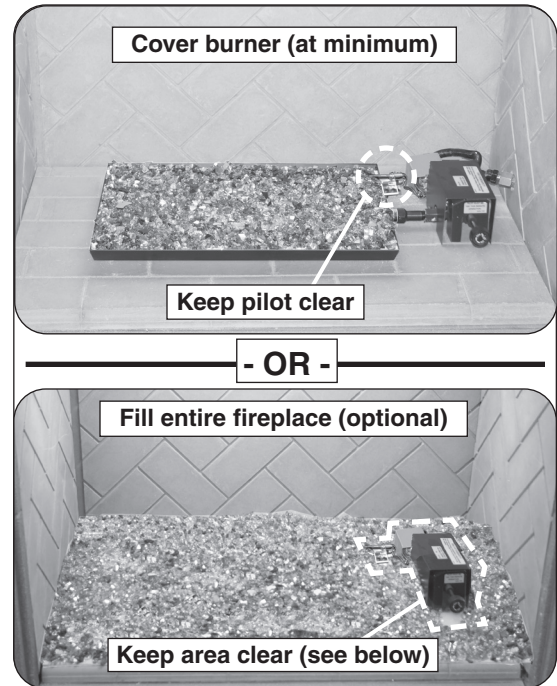
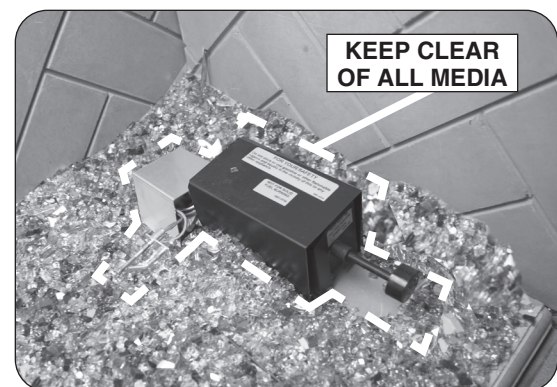

Fig. 22-1 Glass media placement
Fig. 22-3 Keep pilot, valve, & shield(s) clear
1. After the required sand/vermiculite has been placed, pour the glass media (glass, gems) so that the burner pan is filled completely and evenly (see Fig. 22-1).
- DO NOT place any glass media directly on the pilot assembly, on or within the heatshield(s), or under a knob if one exists at the front of the valve (see Fig. 22-1 and Fig. 22-3).
2. Complete placement by pouring the remaining glass media on the floor of the fireplace, around the front, rear, and sides of the burner system (see Fig. 22-1).
KEEP SAND/VERMICULITE, GLASS/GEMS, AND ALL FOREIGN OBJECTS AWAY FROM THE PILOT ASSEMBLY, VALVE ASSEMBLY, AND HEAT SHIELD(S) DURING MEDIA PLACEMENT AND AT ALL TIMES. SEE FIG. 22-3.